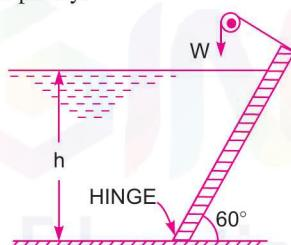

Fig. 3.54
14. A rectangular gate  $6 \text{ m} \times 2 \text{ m}$  is hinged at its base and inclined at  $60^\circ$  to the horizontal as shown in Fig. 3.54. To keep the gate in a stable position, a counter weight of 29430 N is attached at the upper end of the gate. Find the depth of water at which the gate begins to fall. Neglect the weight of the gate and also friction at the hinge and pulley.